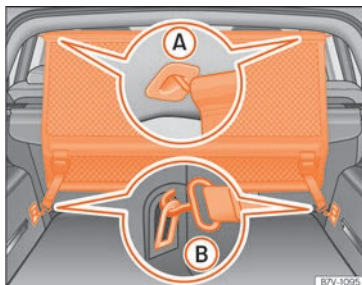

Fig. 153 Net partition fitted.
- Secure the net partition in the left housing of the roof »» Fig. 153 (A). Make sure to move the cross rod down beyond the upper position.
- Hook in the net partition on the rear right-hand side roof housing by pressing on the rod »» Fig. 153 (A).
- Secure two hooks of the partition net to the fastening rings of the boot »» Fig. 153 (B) and tighten the straps firmly.
- Release the net hooks from the fastening rings »» Fig. 153 (B).
- Unhook the net partition on the right-hand side roof support »» Fig. 153 (A) by pressing on the rod.